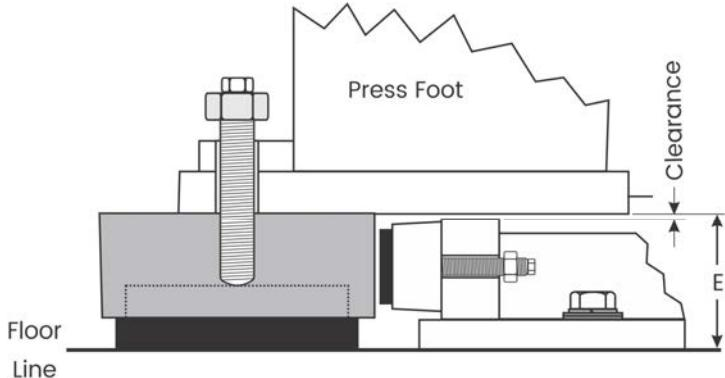

Figure 8
21. Thread the leveling screw into the isolator by hand or with a small wrench. The leveling screw should turn easily into the isolator housing until it contacts the internal bearing plate. See Figure 8. If it does not, remove the leveling screw and check for proper clearance, damaged thread, or debris in the threaded hole.